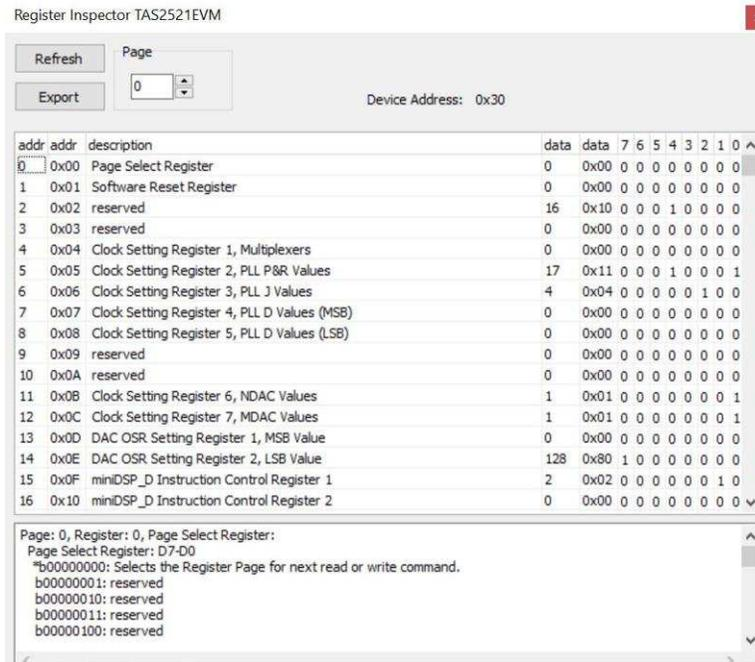

Figure 16. Register Inspector Box
2. Click on *View*→ *Register Inspector...* This will bring up the *Register Inspector* as shown in Figure 16.